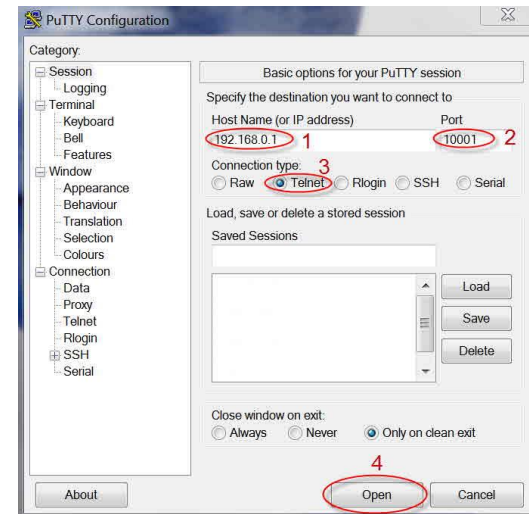

Figure 91
2. Open PuTTY and configure as shown in Figure 91